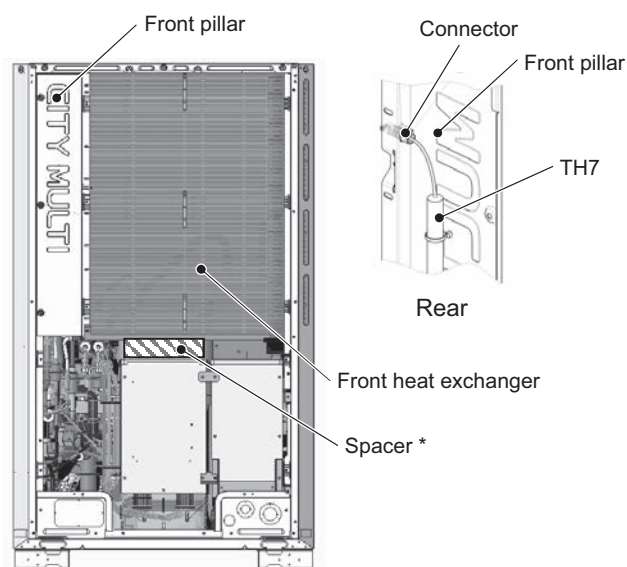

Figure 9
- (11) Remove the front pillar by unscrewing the 7 screws. (See Figure 9.)
- (12) Disconnect the TH7 sensor holder from the front pillar. (See Figure 9 Rear.)